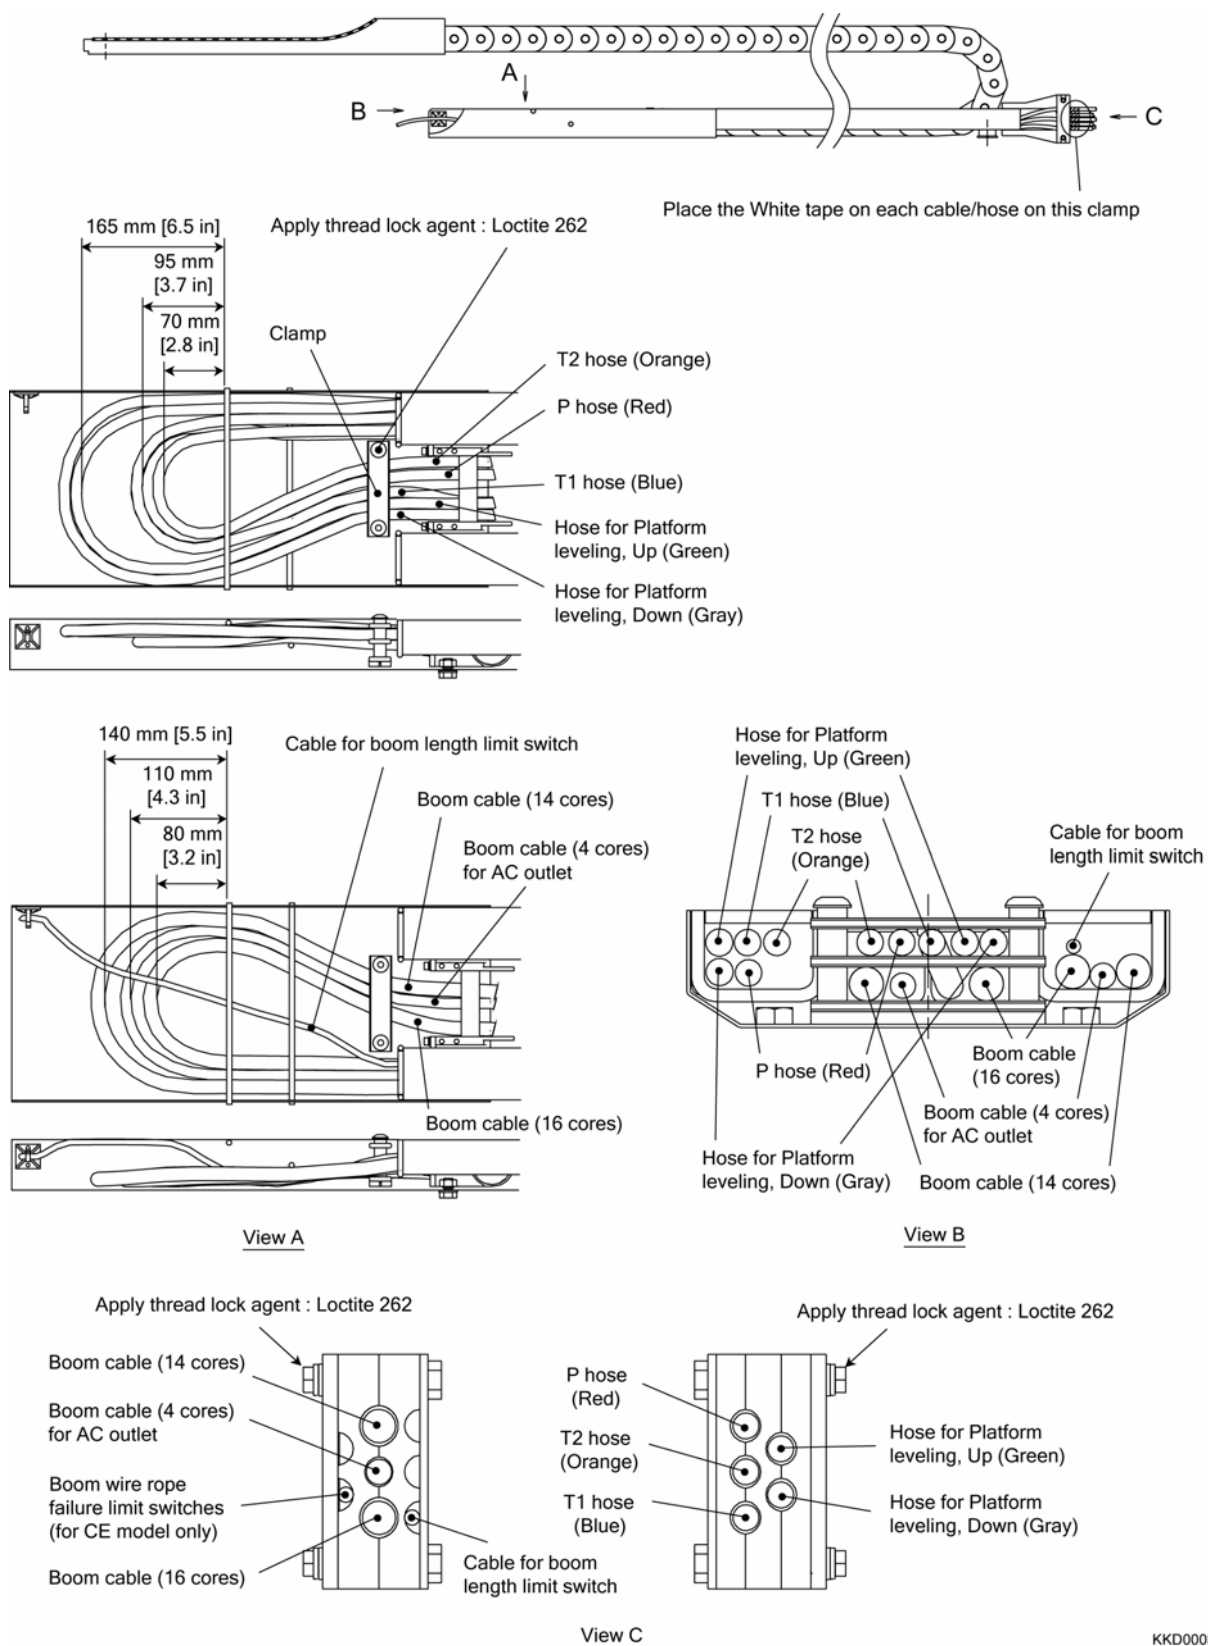

Fig. 2-62
7) Set the boom cables and hoses in the cable guide bracket (Lower) as shown in Fig. 2-62